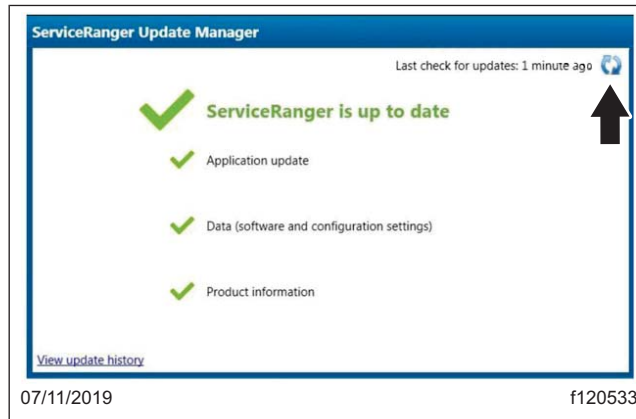

Fig. 5, Selecting the Update Icon
3.3 Select the update icon in the top, right-hand corner. See **Fig. 5**.